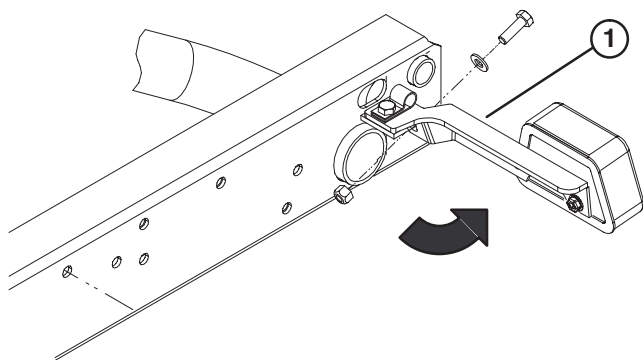

Figure 1
1. Loosen the locknuts and capscrews securing tail light brackets to right and left frame brackets (Fig. 1).
3. Secure rear of each tail light bracket to rear of frame brackets with a 5/16–18 x 1" lg. capscrew, .344" I.D. flatwasher and locknut, as shown in figure 1.